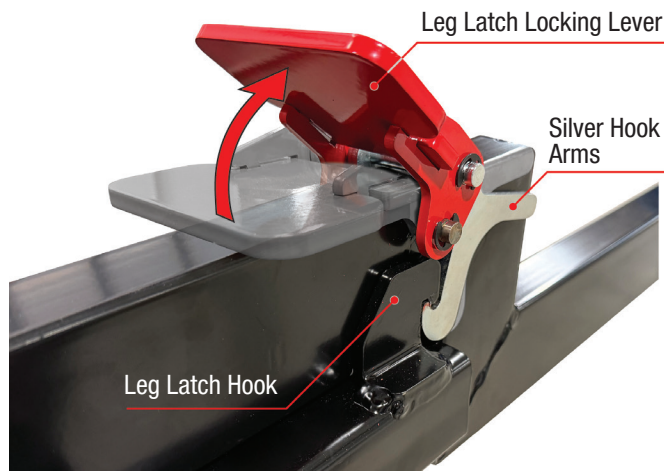

Figure 7-2: Unlocking Legs
4. Unlock each front leg by lifting the red leg latch locking lever and the silver hook arms to disengage from the leg latch hooks (see Figure 7-2).